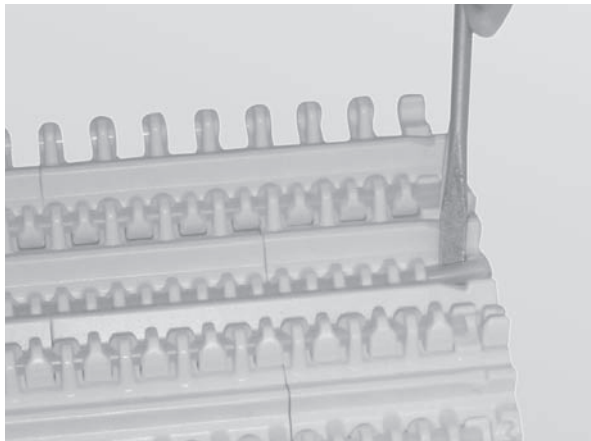

Figure 50
2. Use a flat head screwdriver to raise the end of the belt rod above the retention lip (Figure 50).